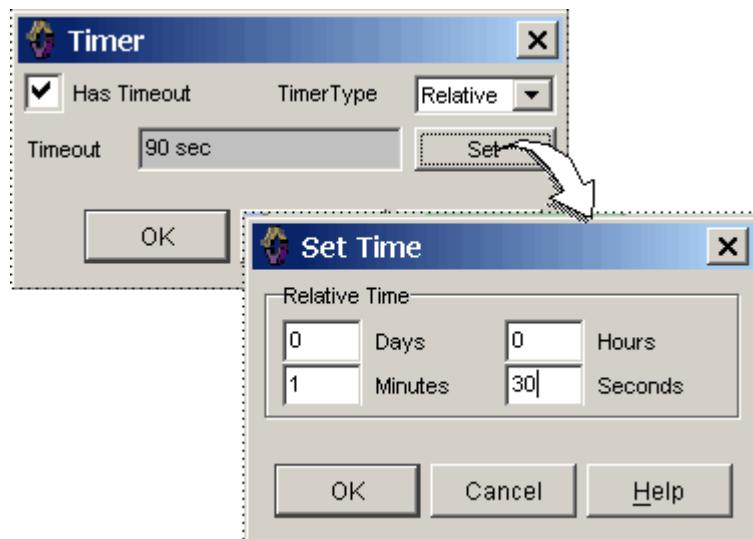

Figure 13-1 Setting a Relative Timer
- c. Enter the maximum amount of time you want the BPO to remain in the state as shown in Figure 13-1.